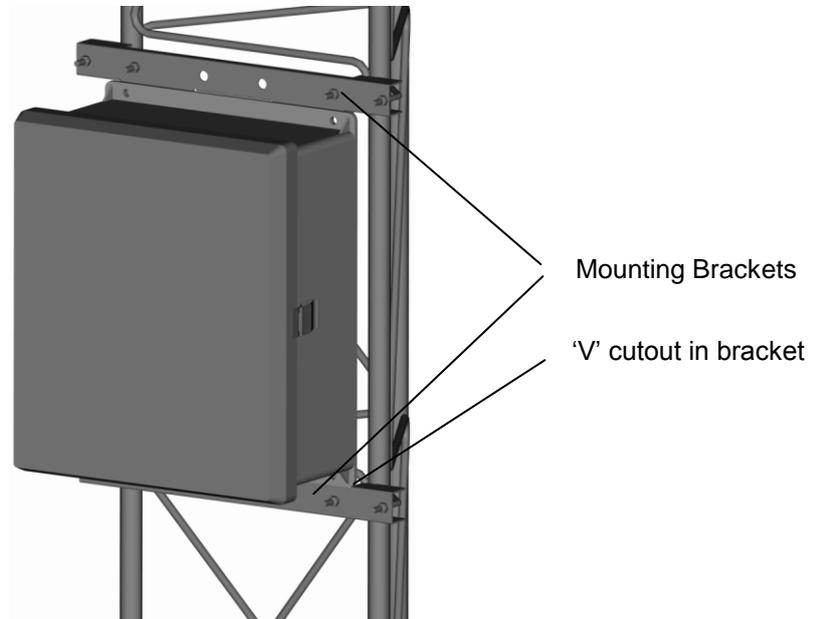

Figure 2-10 Fitting the Enclosure
1. Mount one bracket on the top two holes of the enclosure and the other on the two bottom holes. The 8 mm bolts supplied are used to attach the brackets. Fit the brackets with the 'V' cut-outs pointing away from the back of the enclosure. See Figure 2-10, below.